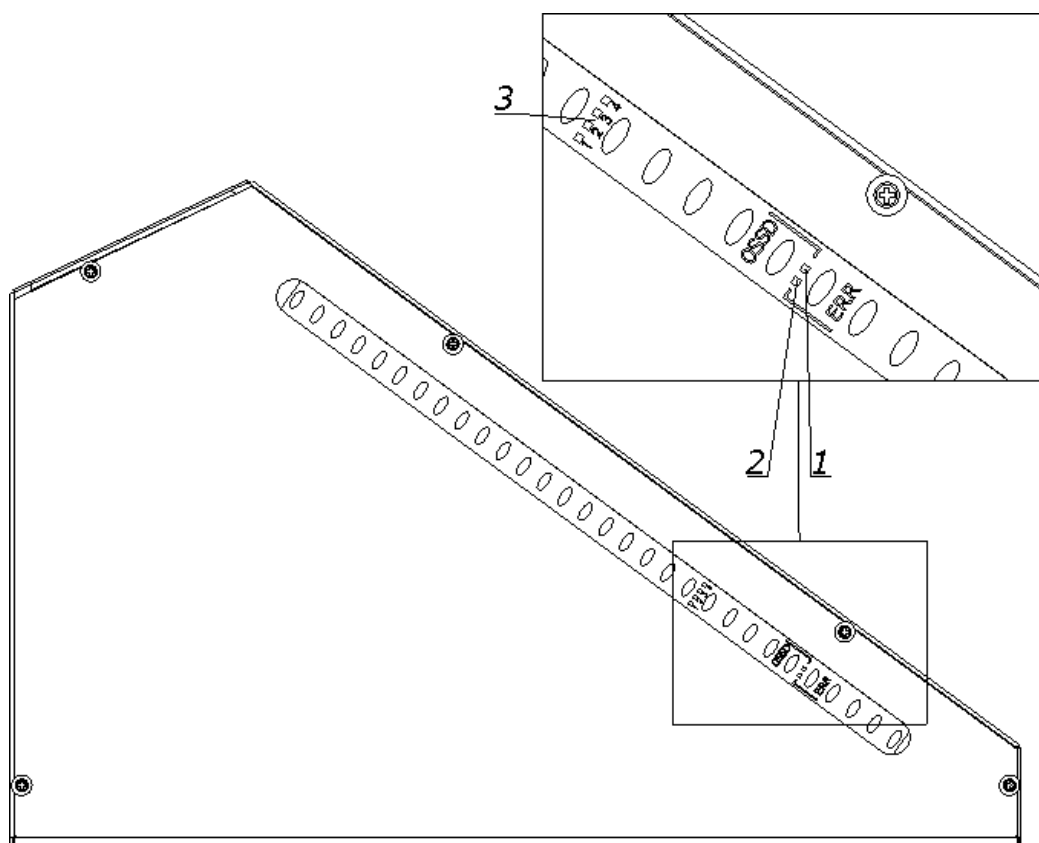
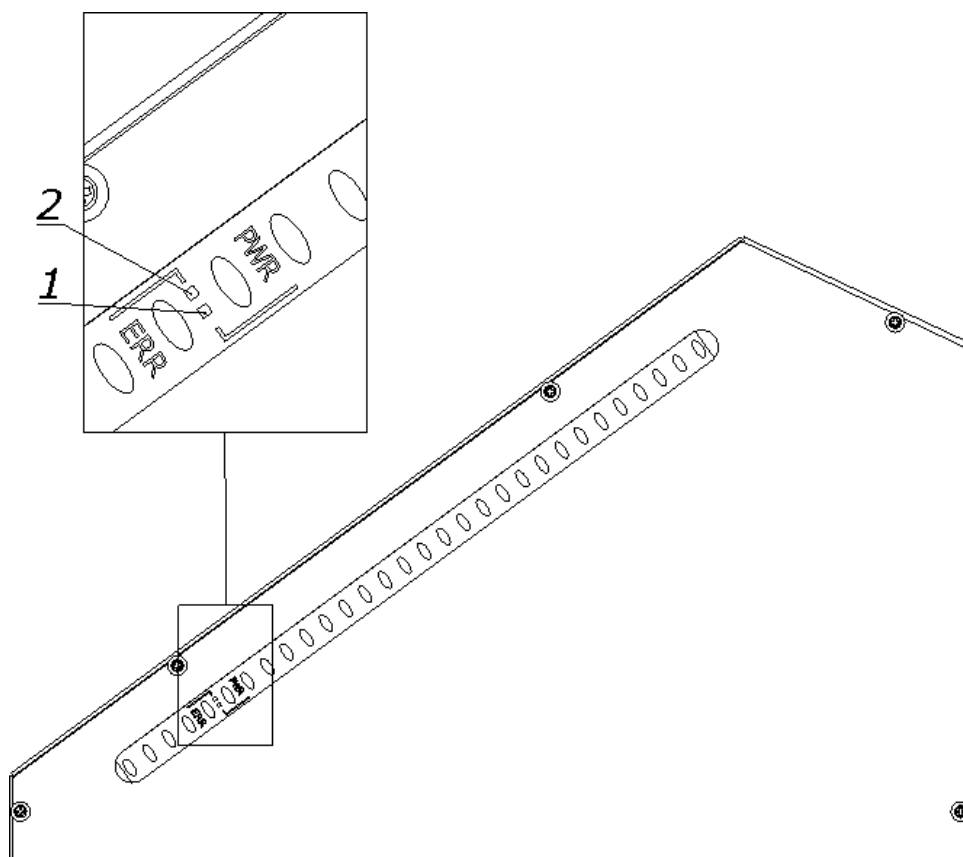

Figure 11. Indicators of the receiver
Figure 12. Indicators of the transmitter
- the green OSSD 1 LED lights up (Fig.11) in the receiver 4 (Fig.15)
When the cutter is switched on, the transmitter 1 and receiver 2 are initialized (fig. 7). All transmitter and receiver LEDs will light for a moment. After initialization the receiver indicates the quality of the setting using four blue LEDs 3 (Fig.11). Table 8.
The setting indicator extinguishes after a suitable time when the safety light curtain is set (the LED of the device switching the output signal: green item 1 figure 11) and only the PWR LED of transmitter 1 (fig.12) and LED 1 (fig. 11) device for switching the output signal of the receiver.